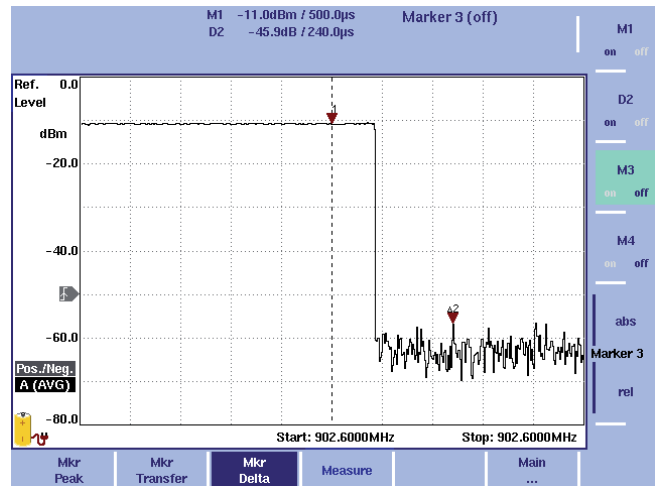

Figure 2: Burst measurement in the time domain
12. Burst versus noise level: Use a marker and a delta marker to view the difference between the signal level and the noise level (in Figure 2, the difference is 45.9 dB).